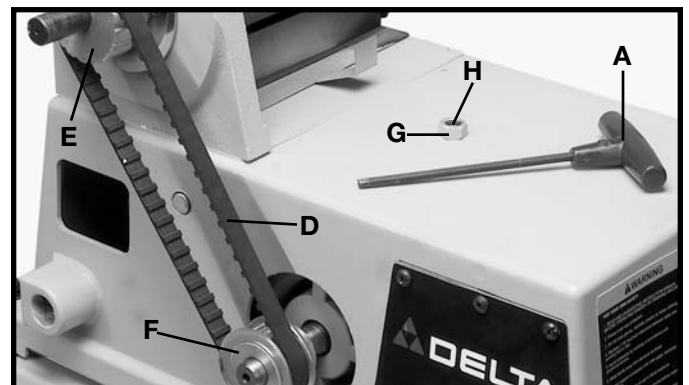

Fig. 7
2. **NOTE: The drive belt (D) Fig. 7, should be firm but not too tight on the pulleys, the drive belt (D) should have approximately 1/4" to 1/2" deflection in the belt at the center span on the pulleys (E) and (F) using light finger pressure. The drive belt (D) does not require excessive tension to function properly.** To adjust belt tension, loosen locknut (G) Fig. 7. Using wrench (A) tighten or loosen adjustment screw (H) until correct belt tension is obtained. Then tighten locknut (G).
3. After drive belt (D) Fig. 7, is tensioned properly, move the sanding arm to the horizontal position.